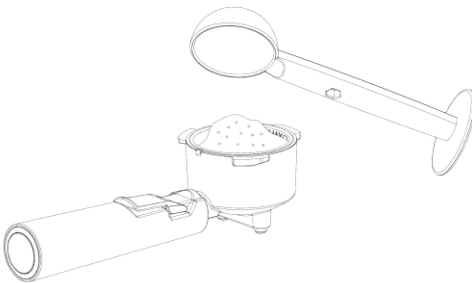

**Fig. 3**
1. Align the small lug on the edge of the filter with the notch on the rim of the filter holder (fig.3) and then insert the filter into the holder.